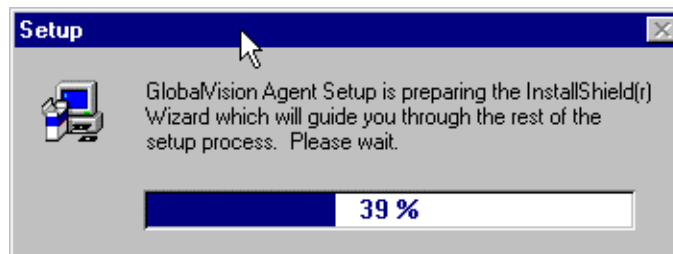

Figure 32 – Loading Install Shield® Wizard screen
5. The **INSTALLSHIELD® WIZARD** SETUP screen and **GLOBALVISION MARQUEE** appear briefly before any installation is started. See Figures 32 and 33.